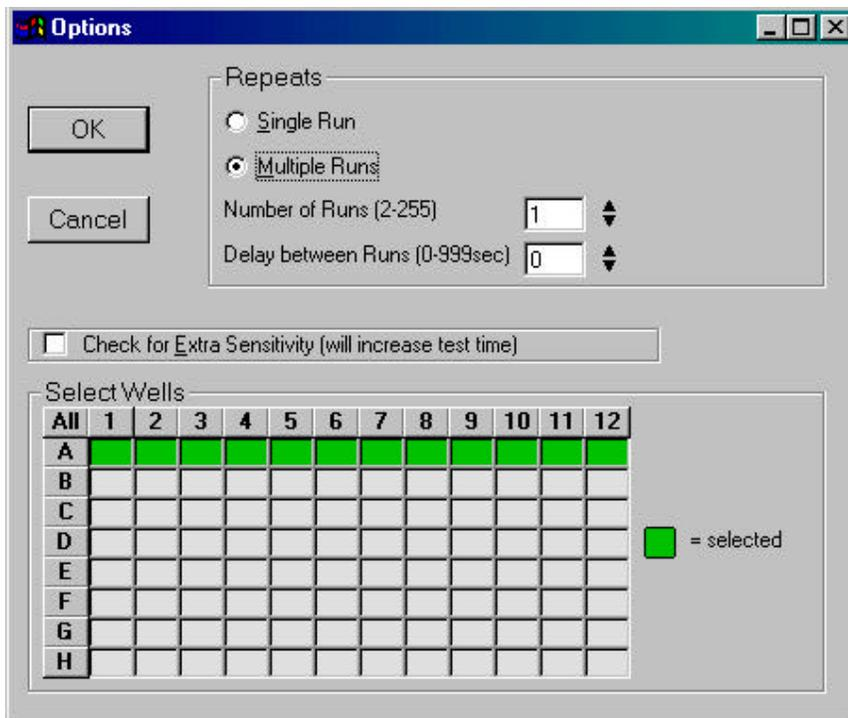

Figure 6
1. Click on Options to access the options screen as shown in figure 6.